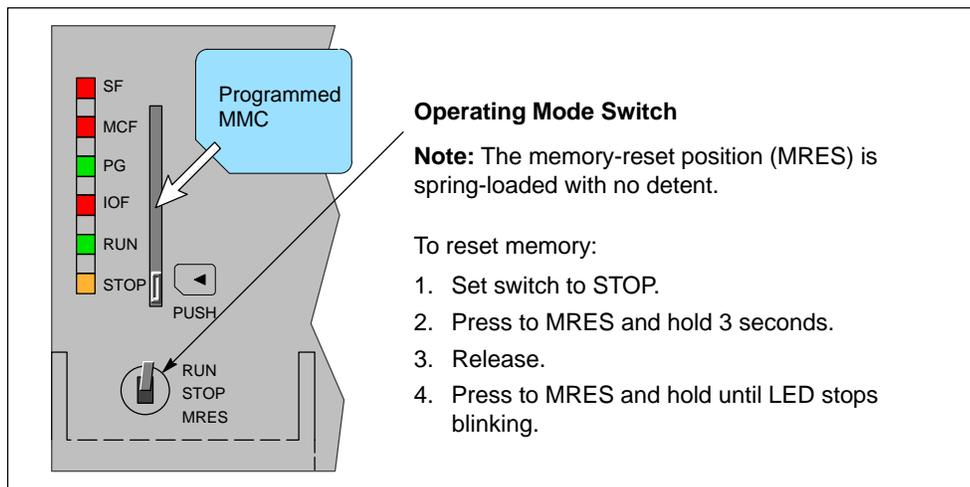

Figure 6-20 Resetting the Memory
2. Press the mode switch to the MRES position (see Figure 6-20), and hold it until the STOP status LED turns off, then back on (about 3 seconds).